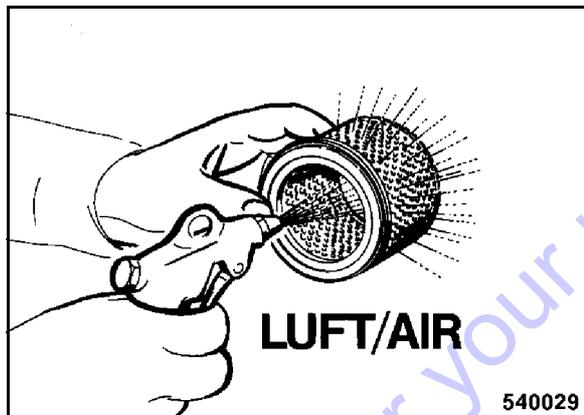

Fig. 45
- In case of dry fine dust blow out the filter cartridge from inside to outside with dry, clean compressed air (Fig. 45) (max. 6 bar).